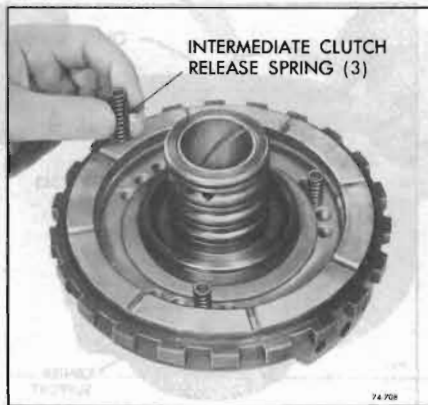

Figure 74-721
4. Install three (3) release springs into the piston, space equally during assembly. See Figure 74-721.